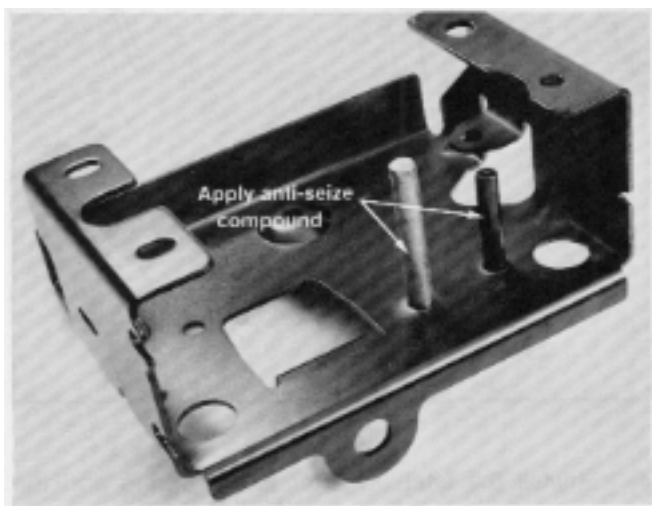

Figure 109
4. Coat the two studs with an anti-seize compound (Toro part number 505-109) to prevent corrosion. See Figure 109.